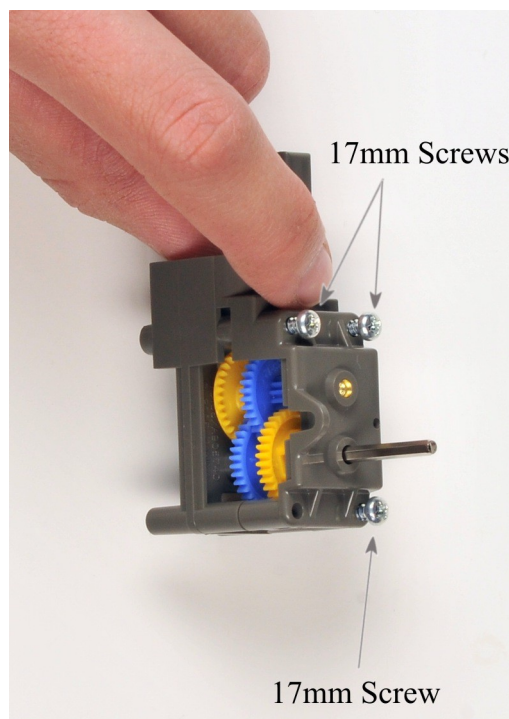

Figure 1.22
18. After ensuring that the gearbox housing parts are mated correctly, locate and insert three 17mm self-tapping screws to hold the assembly together, as shown in figure 1.22. The screws should be tightened and snug.